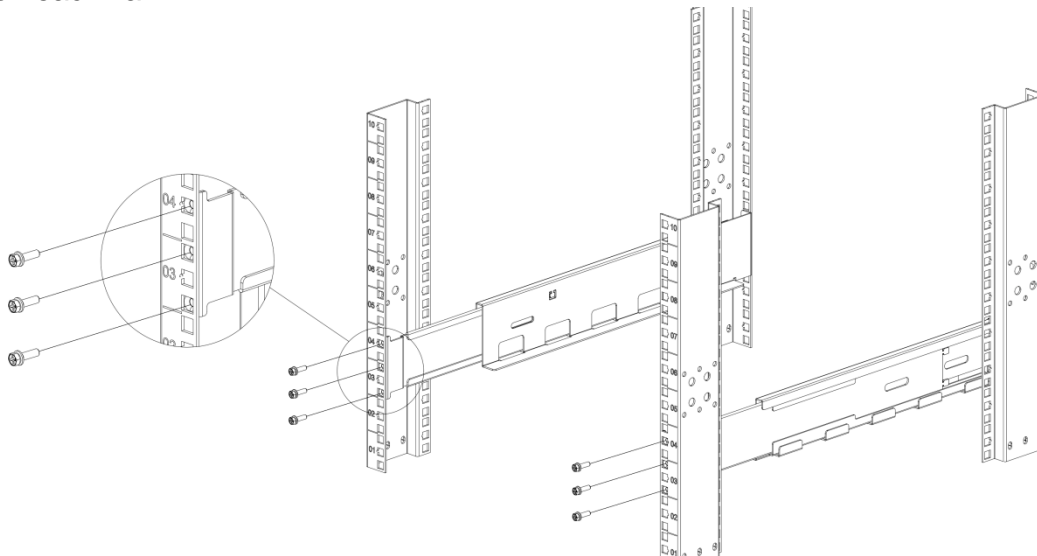

Figure 2: Install the Rear Side of Rails
4. Assemble the rear side of the rail kit with 3x Phillips Pan Head M5 screws (see Figure 2) on each rail.